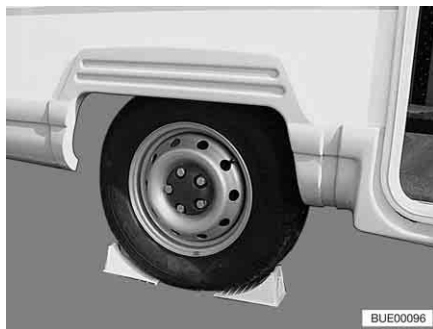

Fig. 282 Securing vehicle
- Place wheel chocks or other appropriate objects beneath the opposite wheel of the vehicle to secure it (Fig. 282).